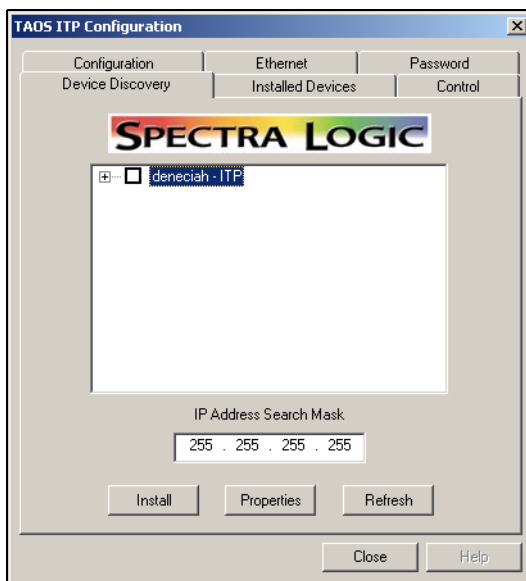

Figure 7-10 *Device Discovery on the TAOS ITP Configuration control panel.*
7. The TAOS ITP Configuration window appears (Figure 7-10).